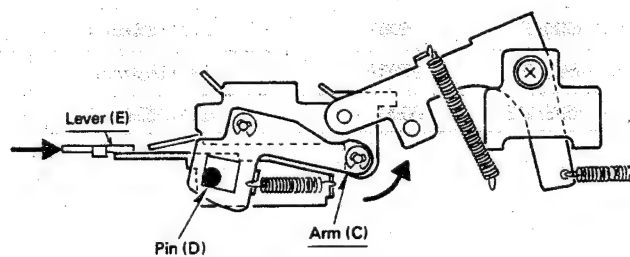

Fig. 5
With Eject Lever (E) moved in the arrowed direction, the head base is unlocked (in a manner to be described later) causing Pin (D), attached to Lever (E) to turn Arm (C) upward. As a result, the cassette is ejected following the reverse order of actions 1 through 3 above (Fig. 5).